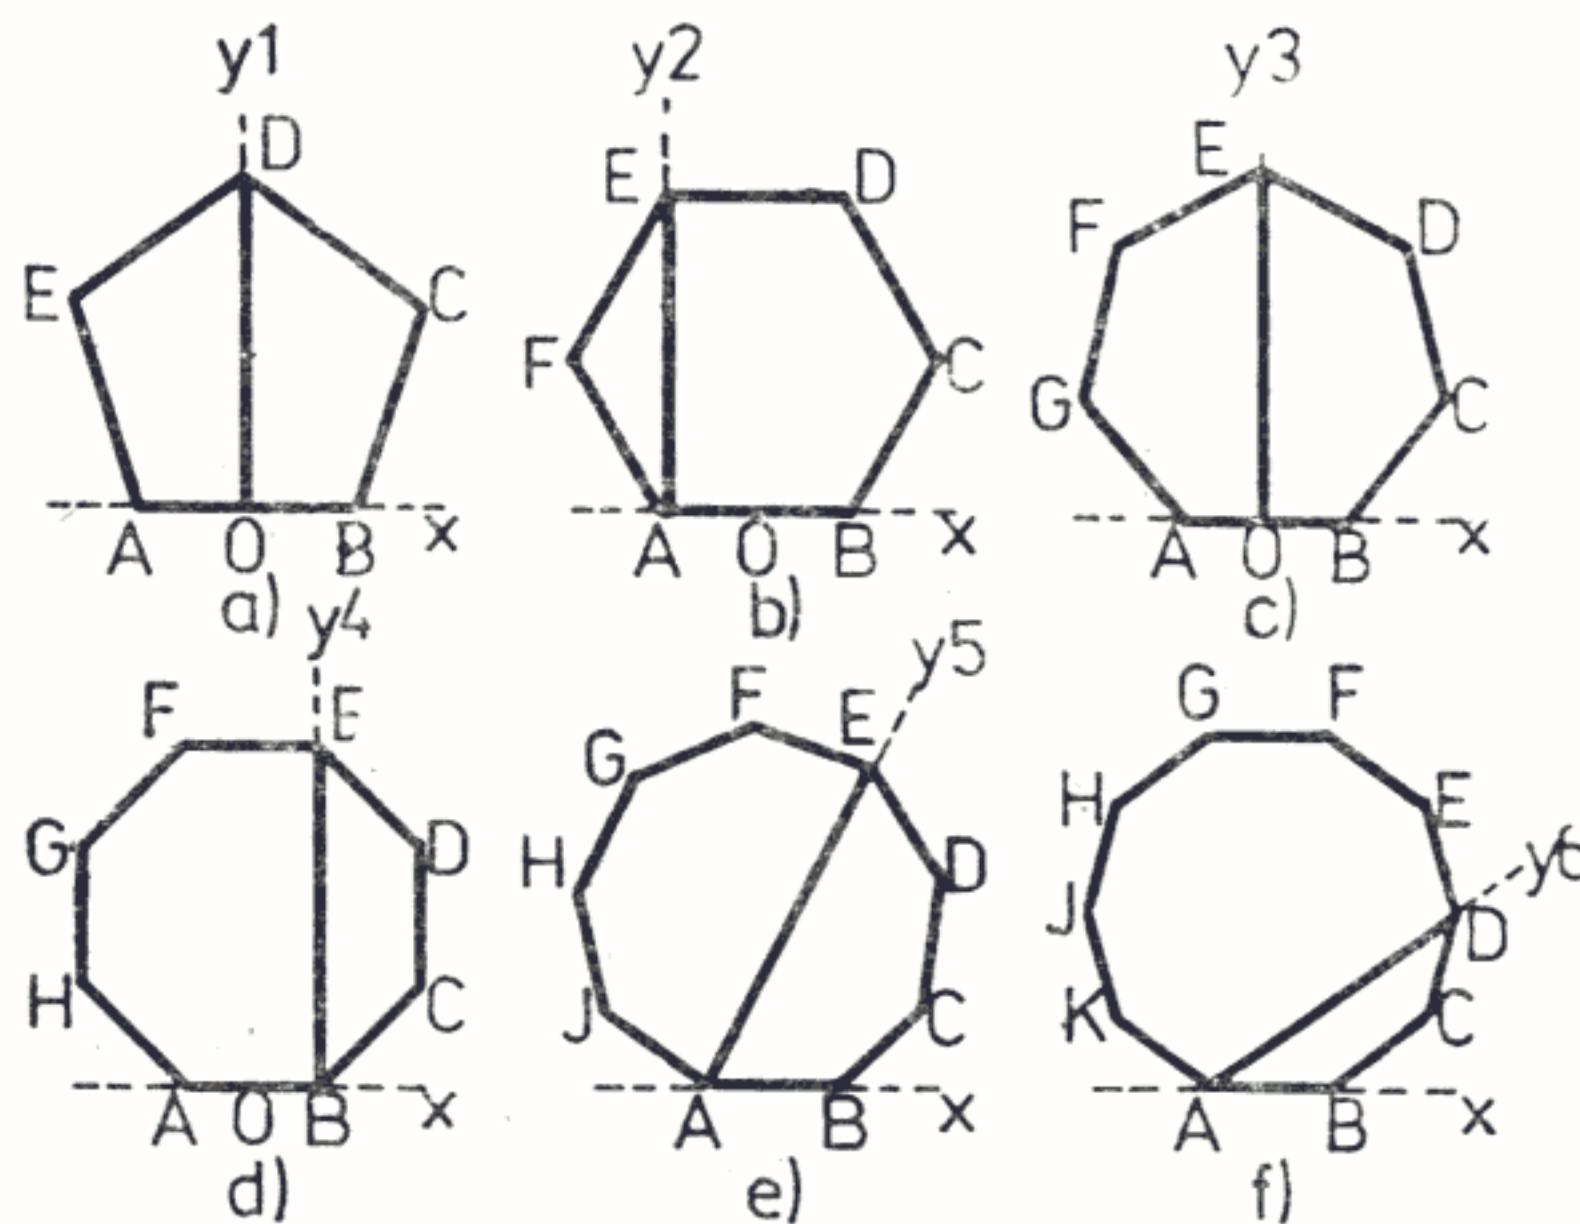

Fig. 19 -- Construirea poligoanelor regulate.
- a) $\angle DOB = 90^\circ$ la pentagon (fig. 19, a);
- b) $\angle EAB = 90^\circ$ la hexagon (fig. 19, b);
- c) $\angle EOB = 90^\circ$ la septagon (fig. 19, c);
- d) $\angle EBA = 90^\circ$ la octogon (fig. 19, d);
- e) $\angle EAB = 60^\circ$ la nonagon (fig. 19, e);
- f) $\angle DAB = 36^\circ$ la decagon (fig. 19, f).